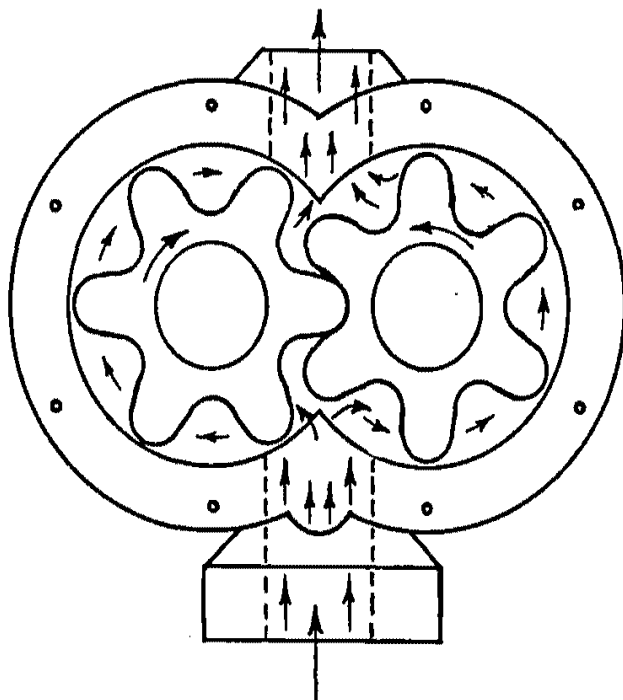

Fig. 8 - Rotary Pump
4. Rotary or Gear Pumps: The rotary pump is frequently called a gear pump. It is quite simple in design, but is subject to considerable wear, especially when the water contains an appreciable quantity of sand or other abrasive material. This type pump is used in many cases for pumping oil or liquids free from abrasives. Water enters at the bottom of the housing and is forced out at the outlet when the teeth of one gear mesh with those of the opposite one. See Figure 8. This pump delivers a steady flow of liquid without pulsation. It will operate against any pressure that the equipment will withstand.